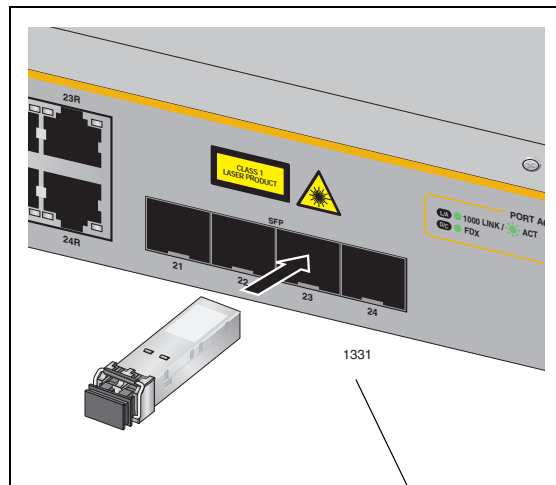

Figure 41. Positioning Handles on the x600-24Ts and x600-24Ts/XP Switches
5. For the x600-24Ts and x600-24Ts/XP switches, verify that the handle on the SFP transceiver is in the upright position, as shown in Figure 41, to prevent inadvertently removing the transceiver.